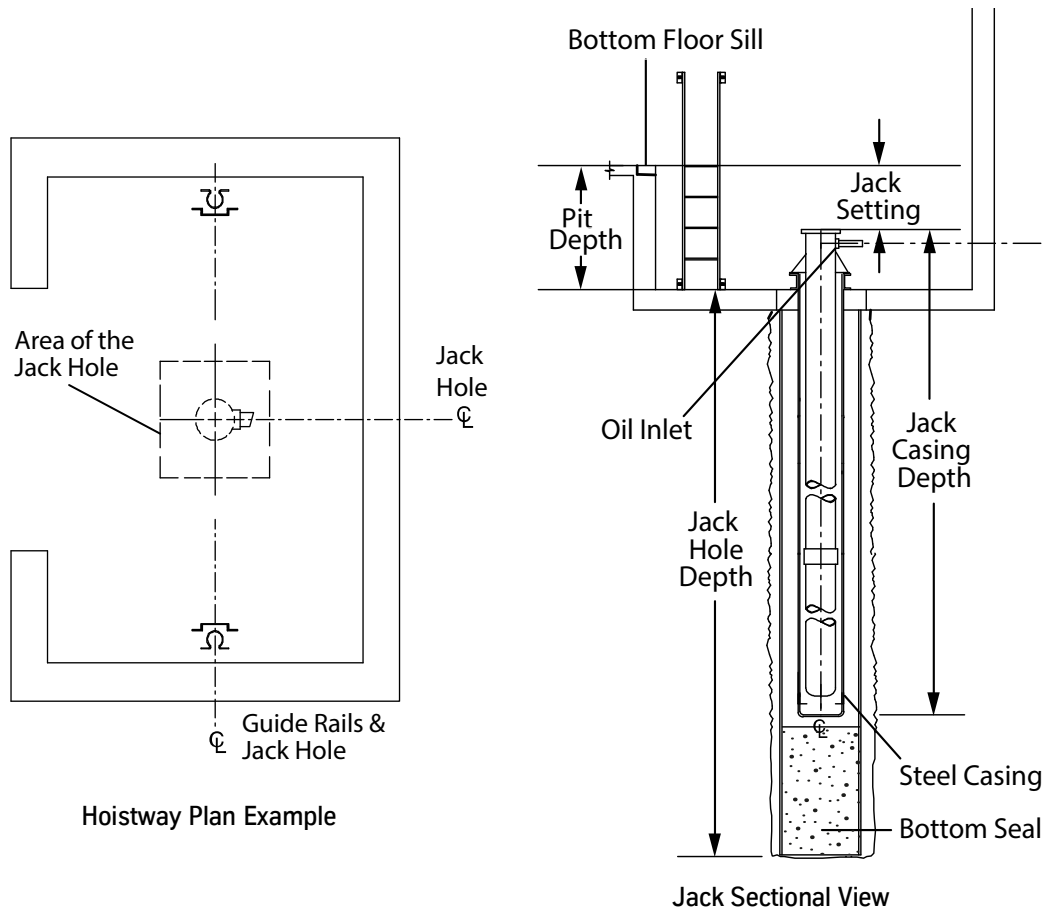

Figure 21 - Hoistway Plan and Sectional View
1. Use the job layouts that include a sectional view and a hoistway plan to determine the proper location for the jack assembly. For an example, see Figure 21.